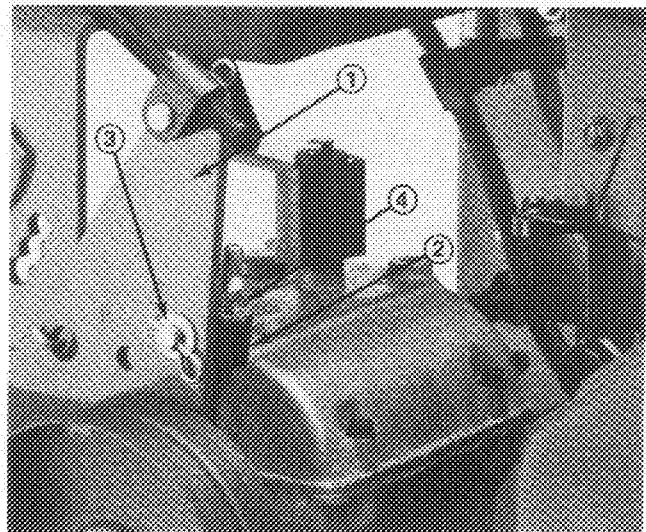

Figure 12
6. If an adjustment to brake rods is required, remove hairpin cotter and washer securing brake rod fitting to idler bracket (Fig. 12).